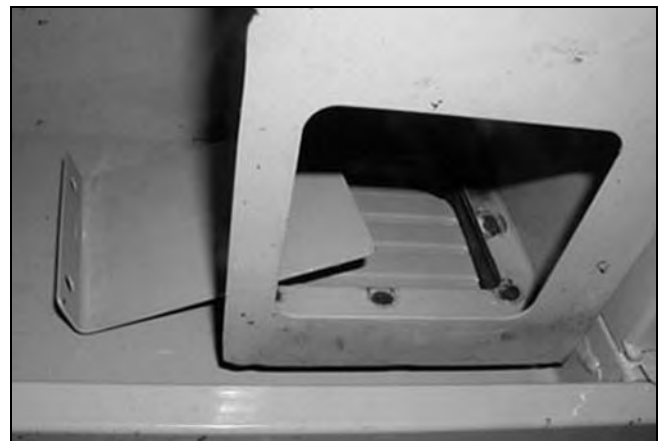

Figure 3-35 Preheated Fresh Air
- Preheated fresh air-heater takes in air from the chassis. See Figure 3-35.